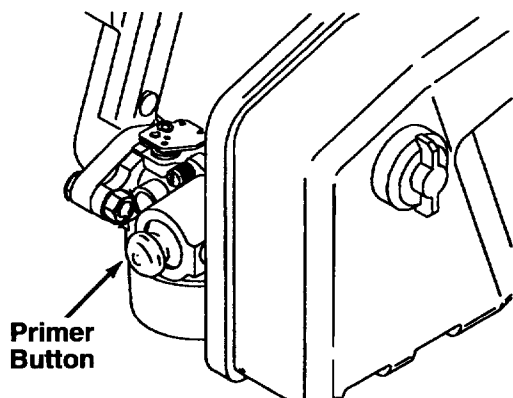

FIGURE 14.
- Push primer two or three times to start the engine. Wait about two seconds between each push. See figure 14. In cold weather when temperature is at or below 50°F/10°C, prime five times. You may have to prime to restart a warm engine after a short shutdown.